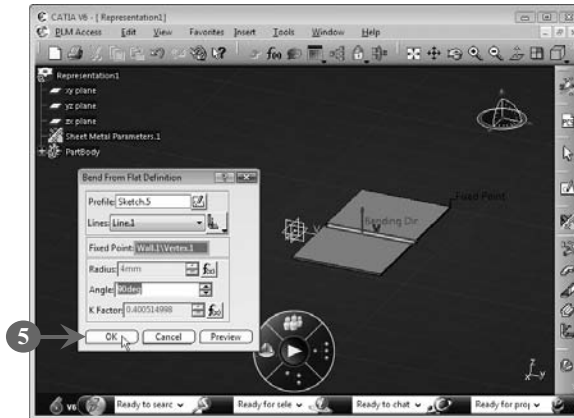

FIGURE 6.55
5. Click the **OK** button to close the **Bend From Flat Definition** dialog box, as shown in **Figure 6.55**: